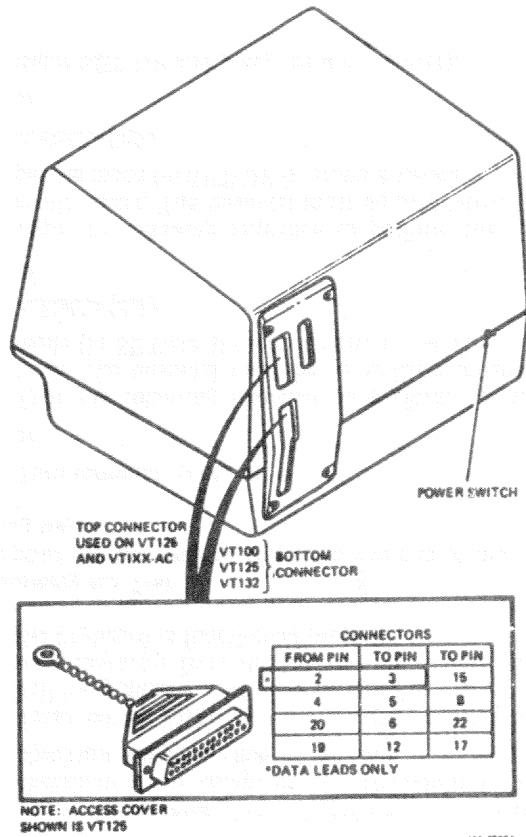
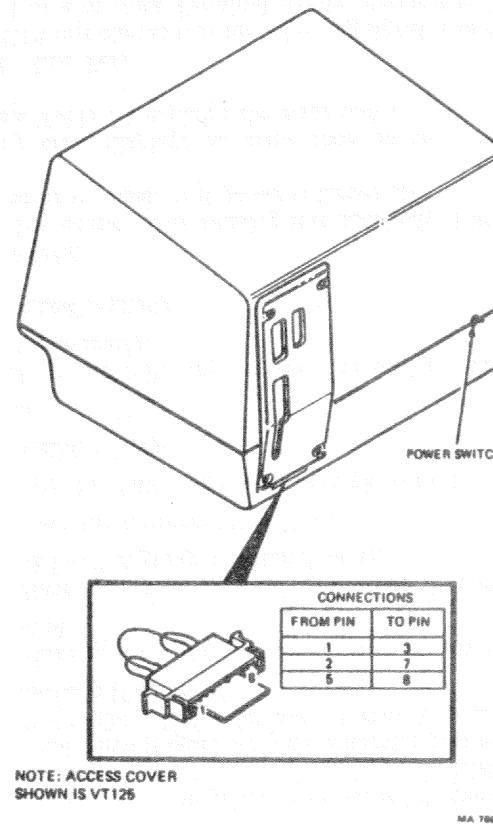

Figure 3-1 EIA Loopback Connector
Figure 3-2 20 mA Loopback Connector
1. Install the appropriate data loopback connector. Connector part number 12-15336 is for EIA communication (Figure 3-1) and connector part number 70-15503-00 is for 20 mA current loop communication (Figure 3-2).